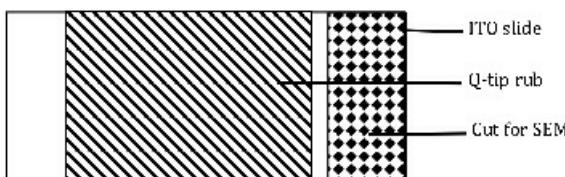

Figure 7. Schematic of ITO slide sample collection
- o Rub this firmly and vigorously across ½ - 3/4 of the slide (on active side) to remove biomass. Cut off the end of the swab with flame-sterilized scissors, and drop into MP biomedical kit FastDNA bead tube (Figure 7.).
- Score the bottom fifth of the slide with a glass cutter and snap off with sterile tweezers (Lay tweezers pointing in same direction as wire for best results). Then, preserve slides for SEM (Appendix 4). *Be careful of cut glass* (Figure 7)